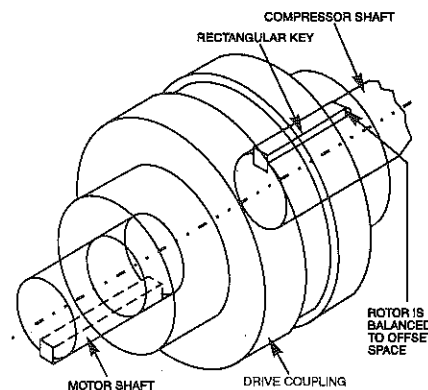

FIG. 3 - COUPLING/SHAFT KEYS INSTALLATION
2. Hold the elastomeric gear between the hubs and slide both hubs onto the gear to fully engage the mating teeth. Make sure that the keys on the compressor and motor halves of the coupling are offset 180° (see FIG. 3). Center the gear and hub assembly so there is equal engagement on both shafts. Adjust the space between hubs as specified in the CH Coupling Data Table below.